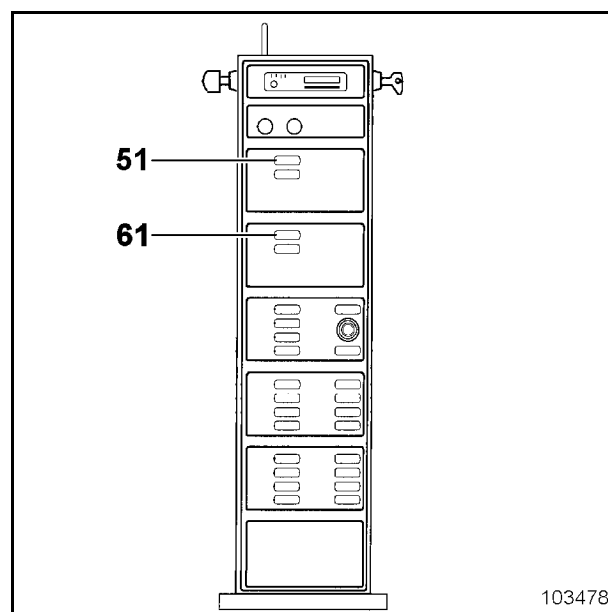

Fig. 2-59:
- Actuate switch-key (51, Fig. 2-59:), the left electric motor is switched on.
- Actuate switch-key (61, Fig. 2-59:), the right electric motor is switched on.